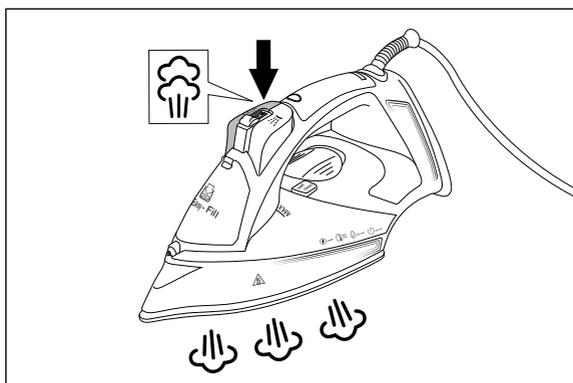

Fig. 6
- 3) Briefly press the steam blast button  **4** several times at intervals of approx. 5 seconds (see Fig. 6).
- 5) Point the water jet **1** at a towel and press the button for the spray function **5** about 20 times (see Fig. 6).
- 9) To decalcify the soleplate ⑪, place the steam iron in a shallow, sufficiently large container (e.g. a shallow bowl). You have previously put the remaining descaling mixture into this container (see step 3).
- 12) Put fresh water in the container and dip the soleplate ⑪ in a few times to rinse it off.
- 13) Remove the steam iron from the container and dry the soleplate ⑪ with a soft cloth.